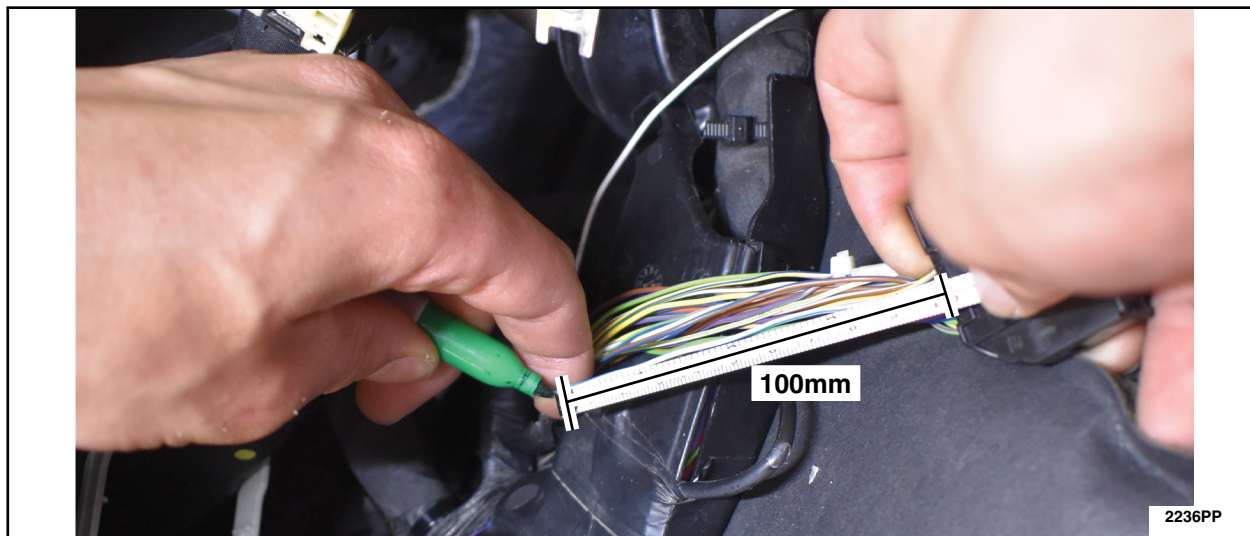

FIGURE 47
56. About 100mm down, on the identified wire, cut the wire to prepare to insert new wire from aux box wiring harness. See Figure 47.